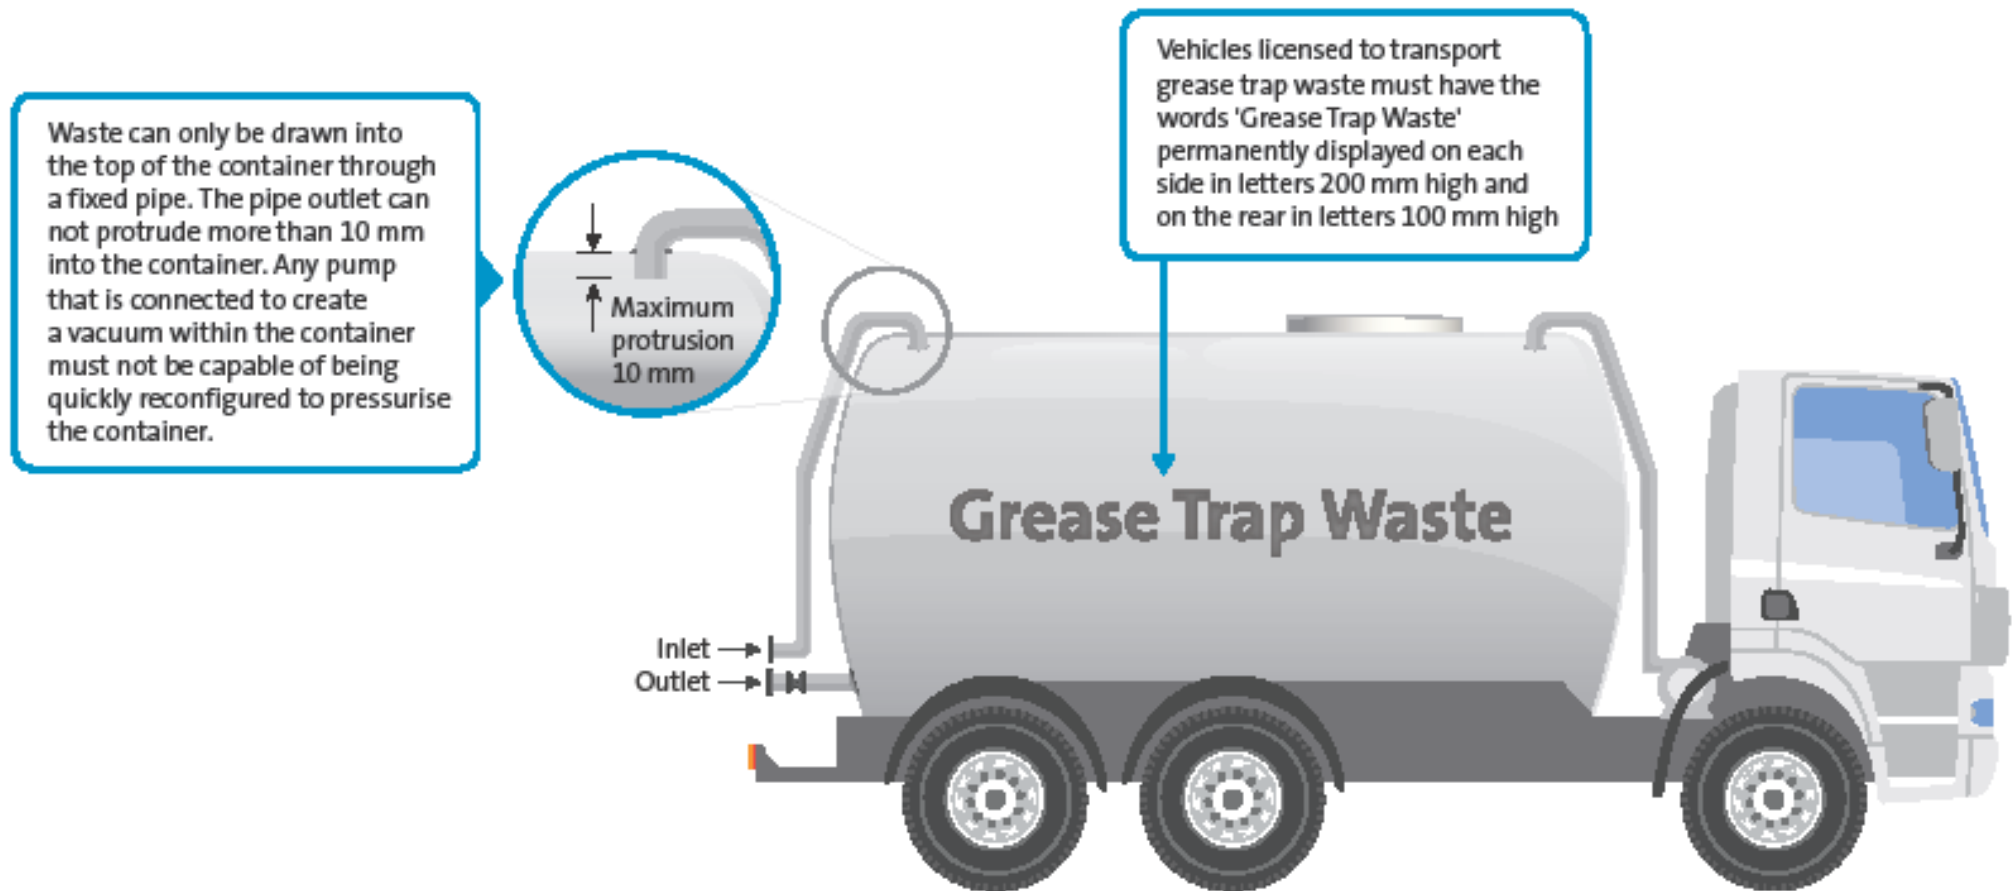

Figure 4 Grease trap waste transport truck which complies with Sydney Water's requirements
17. ensure that the fixed containers on designated vehicles meet the following requirements (see Figure 4.):